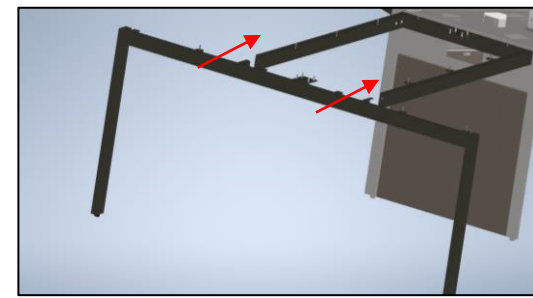

Figure 2
2. Slide the extrusions on the end support frame into the metal stretchers and secure with the 1/4-20 x 1/2" machine screws as shown. Repeat for each side (Figure 2 & 3)